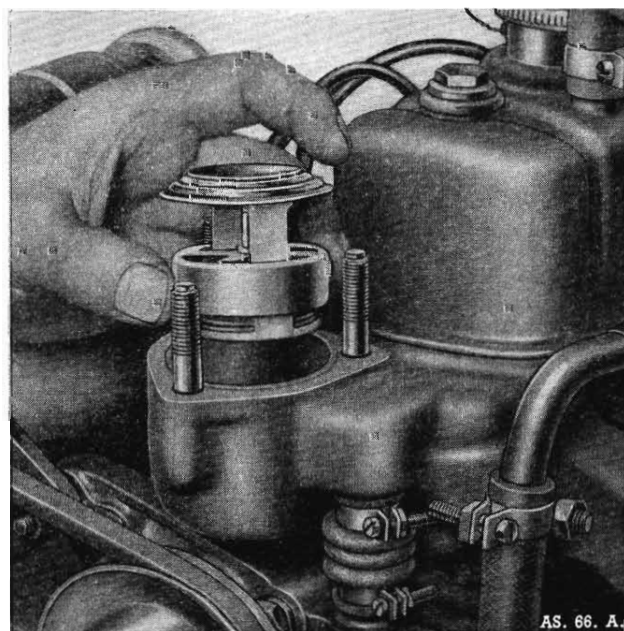

Fig. C.4. Illustrating the removal of the thermostat from its housing
- (3) Remove the three nuts and spring washers from the thermostat cover and lift the cover off its studs.
- (4) Remove the paper joint washer and lift out the thermostat, Fig. C.4.
- (5) Test the thermostat opening temperature by immersing it in water at a temperature between 154° and 167°F. (68° and 75°C.). If the thermostat valve does not start to open, or the valve sticks in the fully open position, the thermostat should be renewed. No attempt should be made to repair the thermostat.
- (6) Clean the joint faces at the outlet elbow and at the housing in the cylinder head.